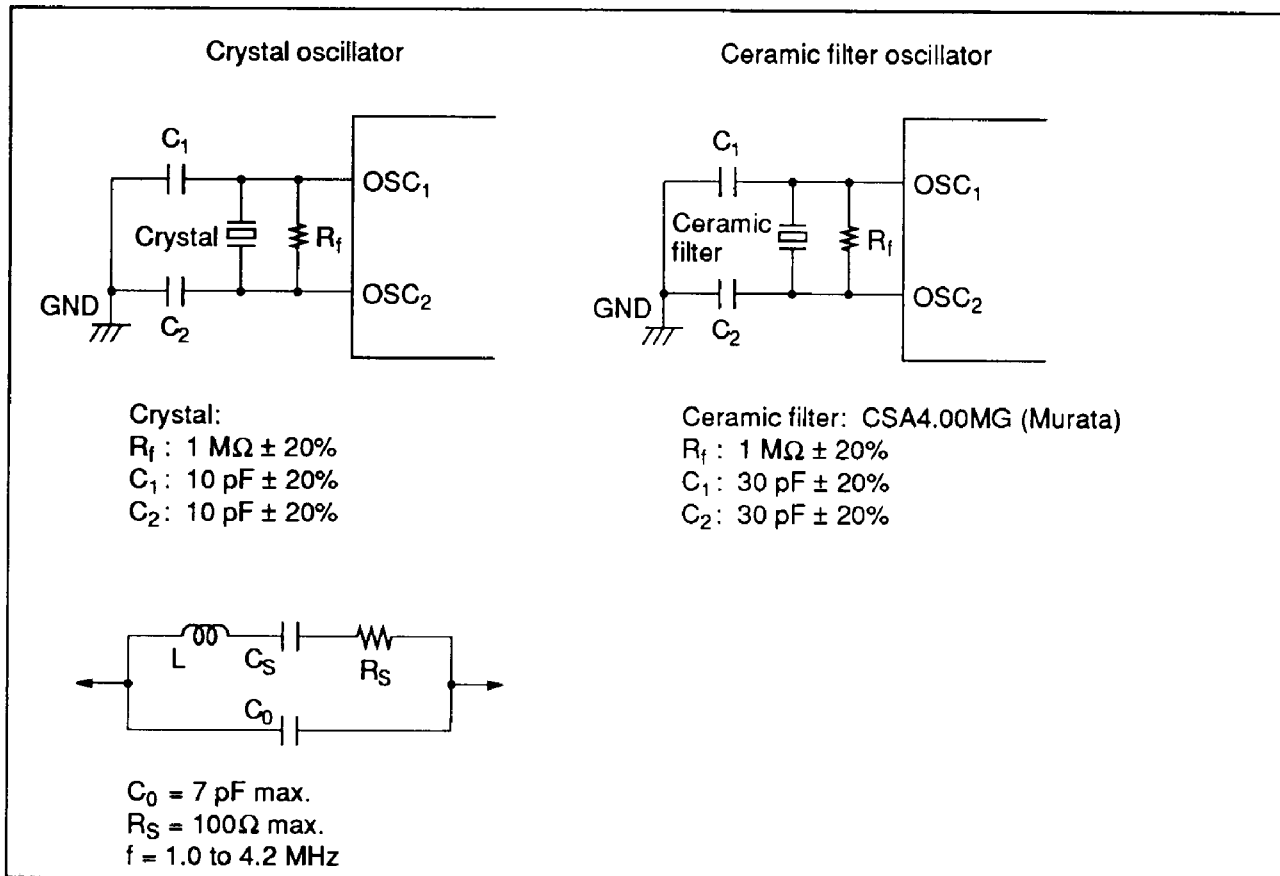

Figure 46 Oscillator Circuits (1)
1. The oscillator stabilization time is the period up until the time the oscillator (see figure 46) stabilizes after V_{CC} reaches 4.0 V at power-on, or after RESET goes high. At power-on or stop mode release, RESET must be kept high for at least t_{RC} . Since t_{RC} depends on the ceramic filter's circuit constant and stray capacitance, consult with the manufacturer when designing the reset circuit.